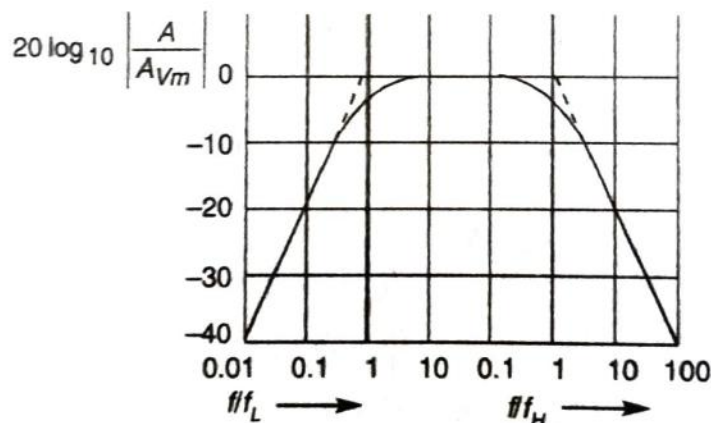

Fig. 6.70 Plot of Gain versus Frequency for an RC Coupled Amplifier
**True mid-band** A plot of  $|A_V/A_{Vm}|$  in dB against frequency  $f$  on log scale is shown in Fig. 6.70.
From the Fig. 6.70, the 3 dB bandwidth extends from  $f_L$  to  $f_H$ . Thus, 3 dB bandwidth equal to  $f_H - f_L \approx f_H$ . But the true midband in which the gain remains truly constant extends from  $0.1 f_L$  to  $0.1 f_H$ . A plot of  $|A_I/A_{Im}|$  in dB against frequency will result in a similar curve.